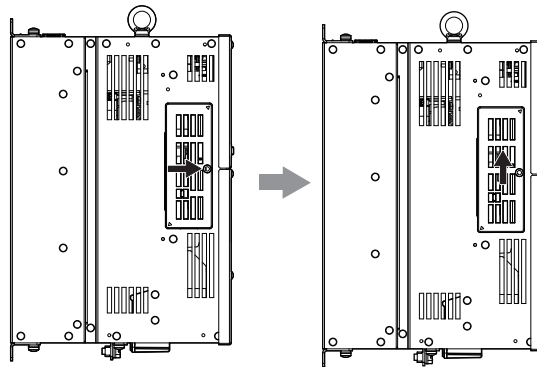

Figure 72 Sliding the CN19 Connector Cover
2. Slide the CN19 connector cover from the drive as shown in Figure 72.